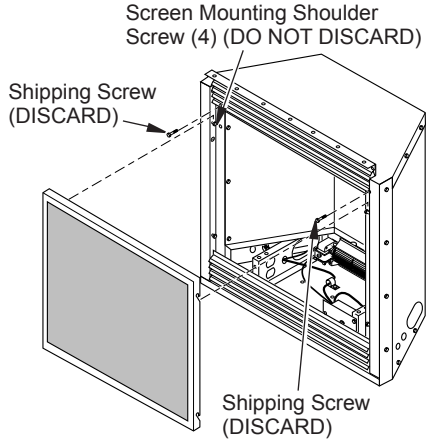

Figure 5 - Removing Screws and Screen
1. Using a 5/16" nut driver, remove two shipping screws and screen (see Figure 5). Discard these screws. Remove 5/16" screen mounting shoulder screws (do not discard).